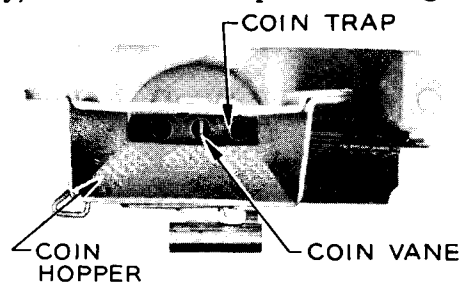

Fig. 10 — Position of Vane when Relay Is Centered
4.11 When mounting relay center it so that with operating arm in its normal vertical position, fork slot engages vane stem and holds coin vane in a vertical position. Full thickness of coin vane is visible in the center hole of coin trap (Fig. 10). If relay cannot be centered, replace relay. If replacing relay cannot be centered, replace coin collector.